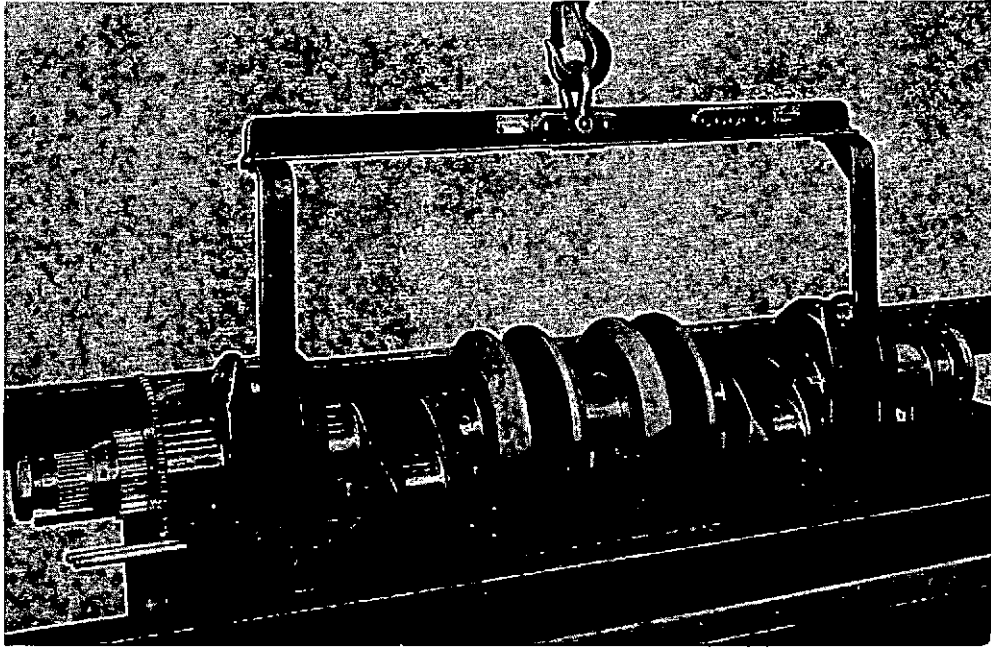

Fig. 8 Lifting crankshaft
29. Using slinging beam J.47789, lift out the crankshaft (fig. 8).